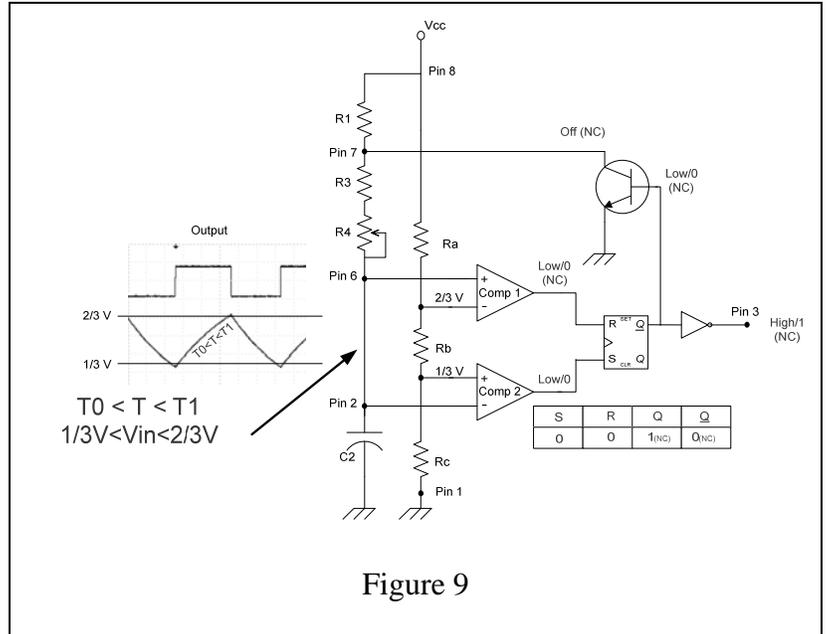

Figure 9
**Time  $T_0 < T < T_1$ .** Let's move on to the next time interval in figure 9. As C2 charges and the voltage rises, we are looking at the time interval when the voltage across C2 is between  $1/3V_{cc}$  and  $2/3V_{cc}$ . That voltage, as applied to the non-inverting input of Comp1 is still less than the  $2/3V_{cc}$  voltage applied to the inverting input, therefore the output of Comp1 remains unchanged at low (0). However, the applied voltage to the inverting input of Comp2 is now above the  $1/3V_{cc}$  voltage applied to the non-inverting input of that comparator and the output of Comp2 snaps to low. The R and S inputs to the Flip-Flop are now both low, and from the truth table, the output of the flip-flop will remain unchanged from the